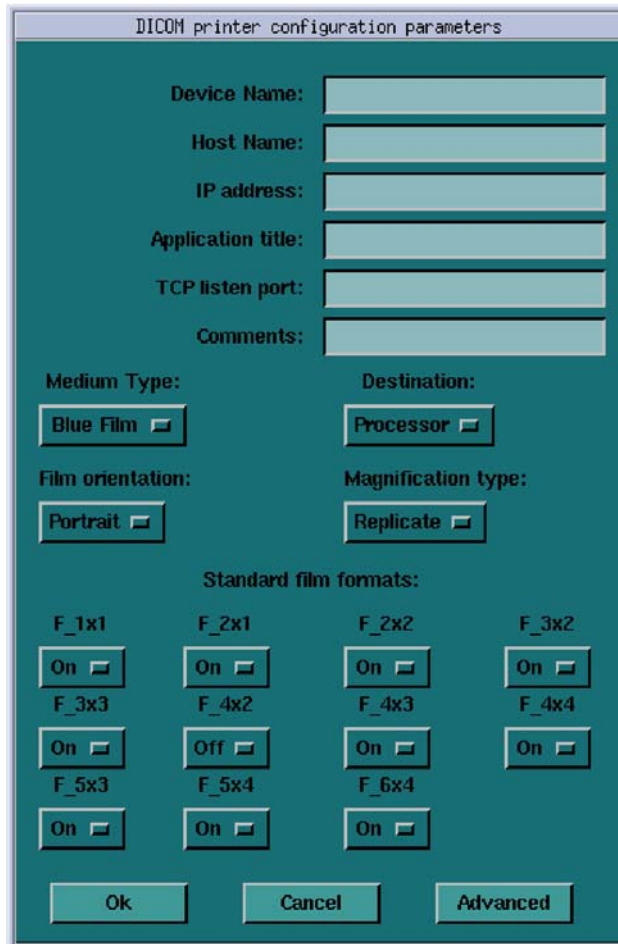

Figure 8-15 DICOM Camera Configuration
- b.) Enter the Network Parameters (See Figure 8-15)
- g.) Select the Standard Film Formats. Select the film format by choosing ON in the pull-down menu box located below each selection. See Figure 8-15. Valid film formats are set by the camera manufacture. IMATION for example, doesn't support 4x4, 2x4 or 1x2 and AGFA does not support 2x4) The DICOM print convention designates film formats by column and row (e.g. 12 on 1 film is 3x4).